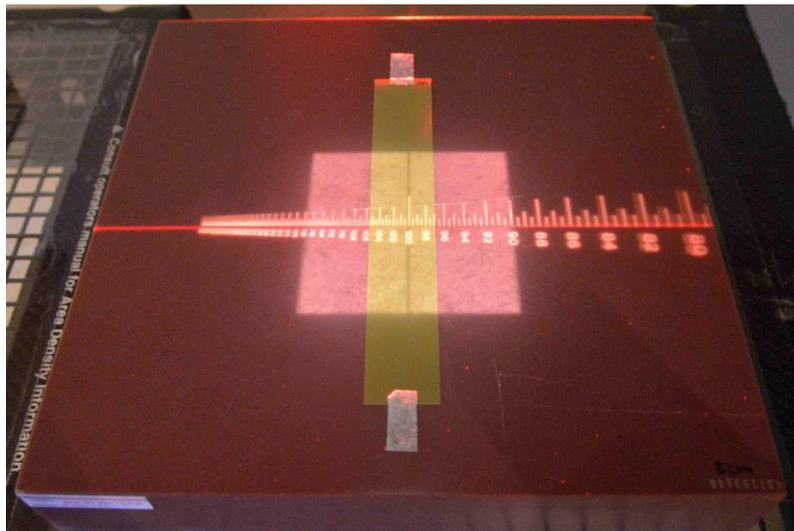

Figure V-1
Step 1: Position a film strip in the phantom (Figure V-1) at the center of the exposure field and perpendicular to the beam.